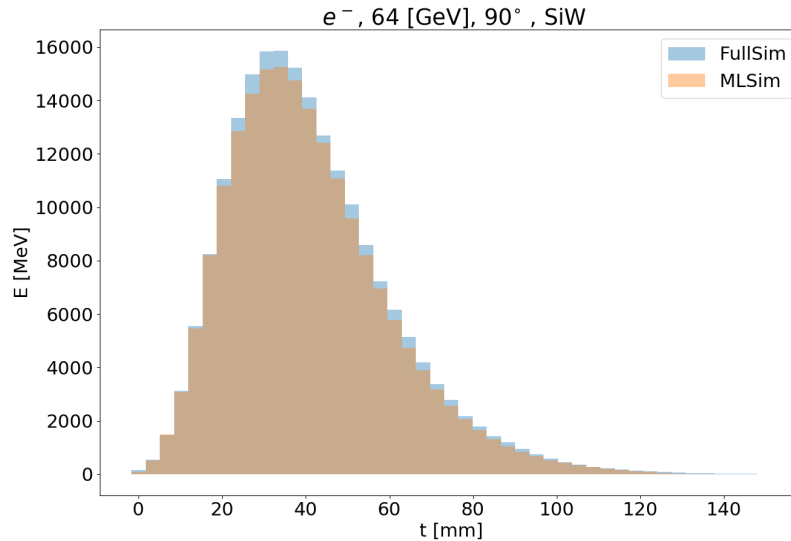
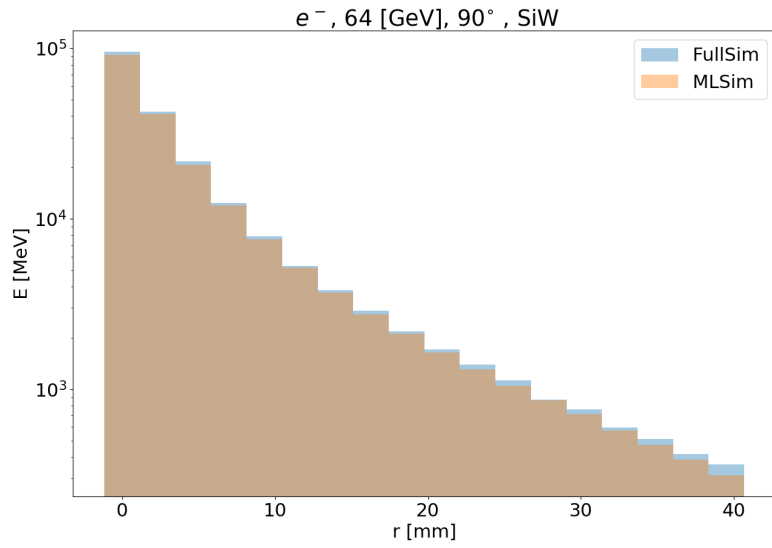

Fig. 11.3: Longitudinal profile for 64 GeV electrons.
Fig. 11.4: Transvers profile for 64 GeV electrons.
The three figures below show the validation plots comparing the full simulation to the (ML) fast simulation after using the inference with ONNX. The plots show the longitudinal (Fig. 11.3), transverse profiles (Fig. 11.4) and simulation